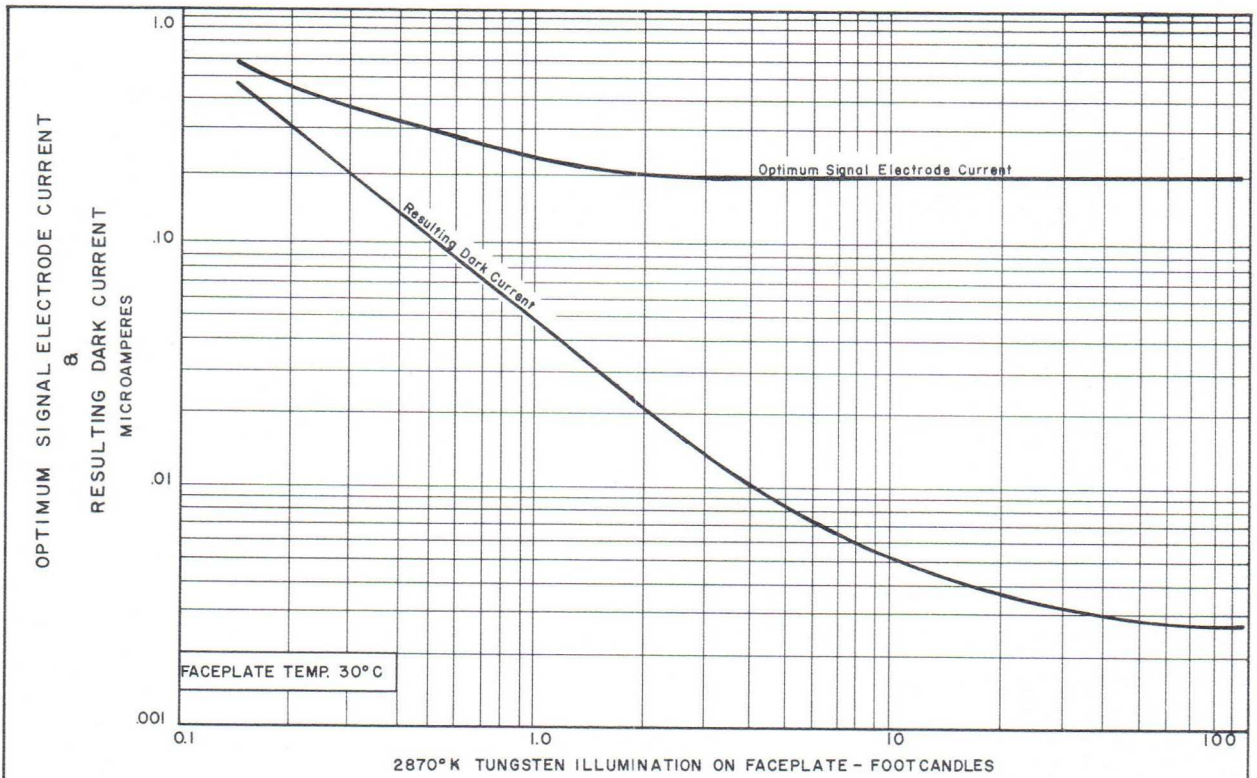

FIG. 2 OPTIMUM SIGNAL ELECTRODE CURRENT
** Optimum Signal-Output Current (See Figure 2)
The GEC 7325 is not limited in its operation by dark current restrictions, as explained above. Therefore, best picture quality can be obtained by adjusting for optimum signal electrode current as shown in Figure 2. The resulting dark current is also shown in Figure 2 as an aid in circuit design. Signal output is the difference between signal electrode current and dark current and therefore can be obtained directly from Figure 2.